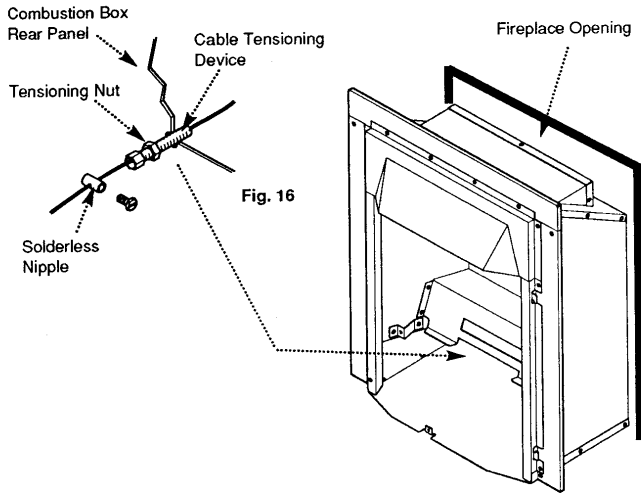
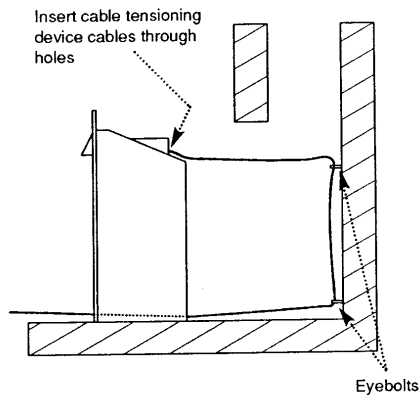

Fig. 16
Fig. 17
8. Engage the tensioning nuts on the threaded shanks of the tensioning devices. Run the nuts down to the hexagonal heads of the tensioning devices (Fig. 16).
9. From the front insert the cable tensioning devices through the combustion box rear panel. The hexagonal heads must be to the inside of the box (Fig. 16).
10. Position the appliance in front of the fireplace opening and insert the cables in the holes in the combustion box rear flange (Fig.17). Pass the cables through the eyebolts in the builders opening rear face and insert them in the tensioning devices (Fig. 16 & 17). Manoeuvre the appliance backwards into the opening, drawing any slack length of cable through the tensioners.
12. Run the solderless nipples down the cables to the tensioners and tighten their securing screws (Fig. 16). As required, take the relevant grommet(s) and slide over the gas supply. Run the grommet(s) down the pipe and insert in the hole in the rear panel (Fig.18).